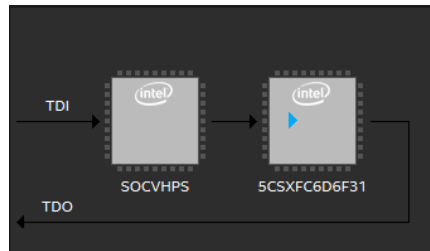

Figure 17. SOCVHPS
34. The new device will appear to the right of the FPGA device in the chain. **Click and drag SOCVHPS to the left of the FPGA** in the chain, so TDI connects to SOCVHPS, as shown in Figure 17.